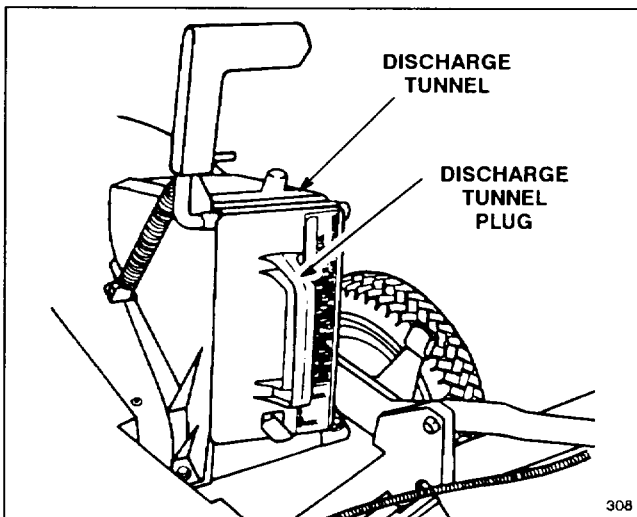

Figure 27
1. **Rear Bagging Kit (Model 59174 for self-propelled models, Model 59179 for hand push models)**—Install discharge tunnel and rear mounting grass bag to convert Recycler® II Super Pro® mower to a rear bagging mower (Fig. 27). Includes discharge tunnel plug.